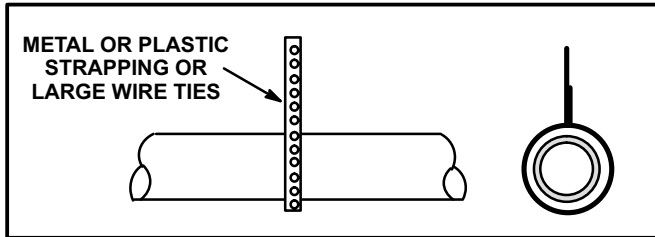

FIGURE 4
- 9 - Use isolation hangers to suspend furnace vent pipe and to support vent termination. See figure 4.
- 8 - Use isolation hangers to suspend furnace vent pipe and to support vent termination. See figure 4.